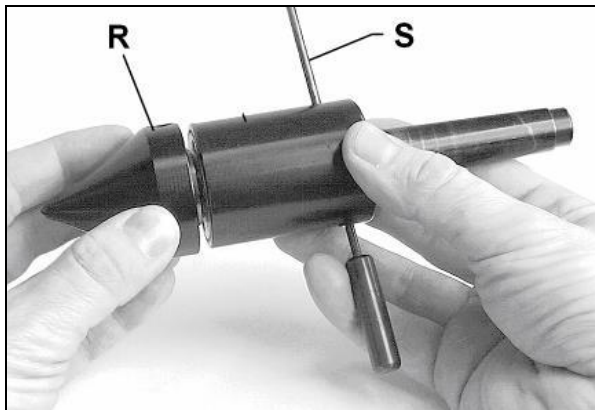

Fig 22
To screw off the cone (R, Fig 22) the live centre must be locked against rotation with the supplied pin (S).